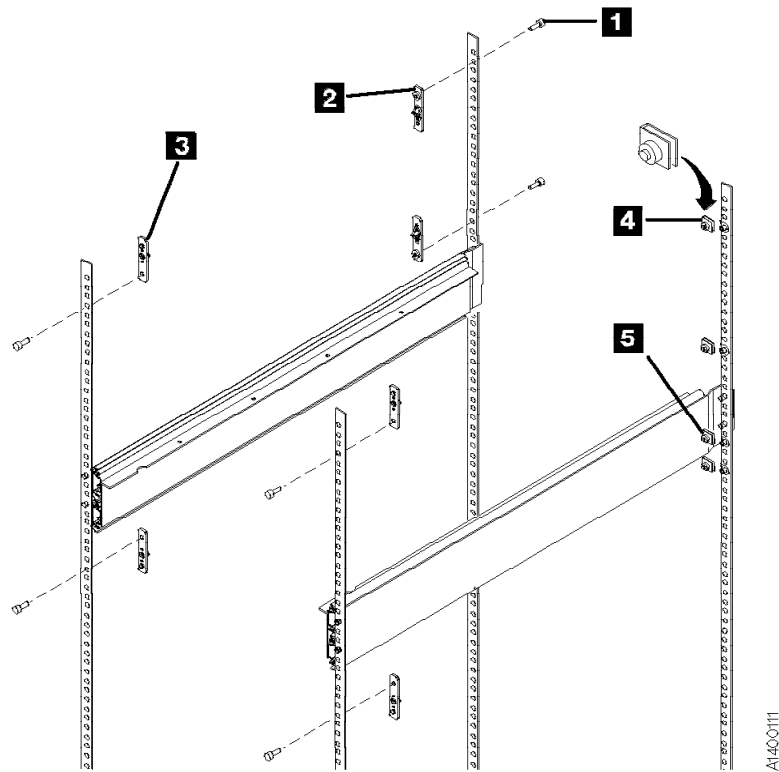

Figure 190. Cover Mounting Hardware (Front View)
- ___ 2. Install the hardware for drives 0 and 1 by using Figure 189 and Figure 190. Use six screws P/N 1624778 **1** in the mounts.